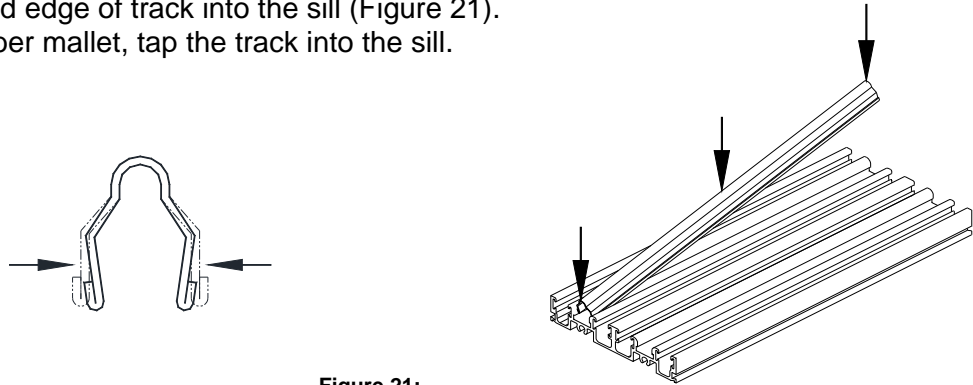

Figure 21:
2. Push tapered edge of track into the sill (Figure 21).